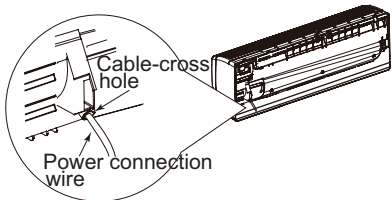

Fig. 12
- (2) Make the power connection wire go through the cable-cross hole at the back of indoor unit and then pull it out from the front side. (As show in Fig. 12)